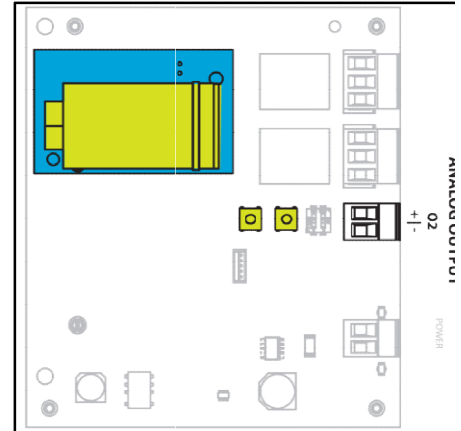

FIGURE 9: Location of SPAN & ZERO Controls
The sensor requires calibration at the specified calibration interval listed in Table 3 to ensure its accuracy is maintained over its life. Calibration is a two-step process that provides the sensor module with oxygen-free (or zero) gas, and then a specific concentration (or span) gas. Two calibration buttons (*ZERO* and *SPAN*) are provided on the main board as shown in Figure 9.
Apply the nitrogen (zero) calibration gas to the sensor using a calibration adapter, following the instructions for the calibration kit being used. Ensure that gas is flowing to the sensor, then press and hold the 'ZERO' button (see Figure 9) for 3 seconds until the front cover LED starts blinking **YELLOW**, indicating that gas sampling is in progress.
1. Apply the SPAN calibration gas to the sensor using a calibration adapter, following the instructions for the calibration kit being used. Ensure that gas is flowing to the sensor, then press and hold the 'SPAN' button (see Figure 9) for 3 seconds until the status LED starts blinking **YELLOW**, indicating that gas sampling is in progress.